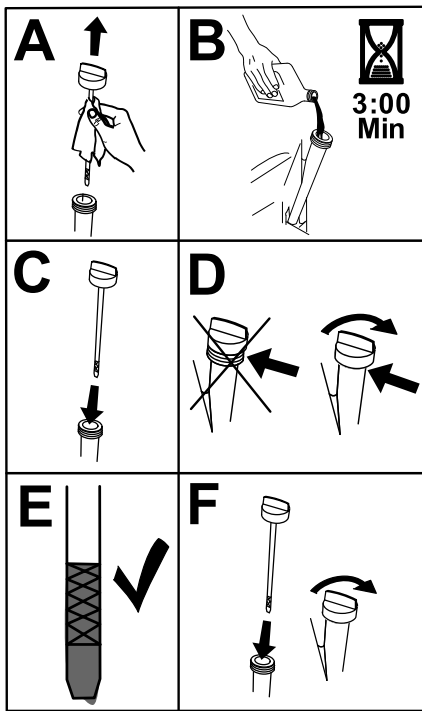

Figure 38
6. Slowly pour approximately 80% of the specified oil into the filler tube and slowly add the additional oil to bring it to the Full mark (Figure 38).